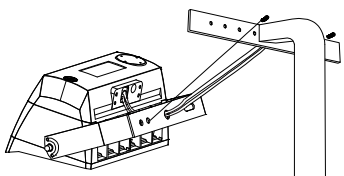

Figure 12
3. Flood Mounting (FM)
STEP 1: Drill holes on the wall as shown. (FIGURE 12)